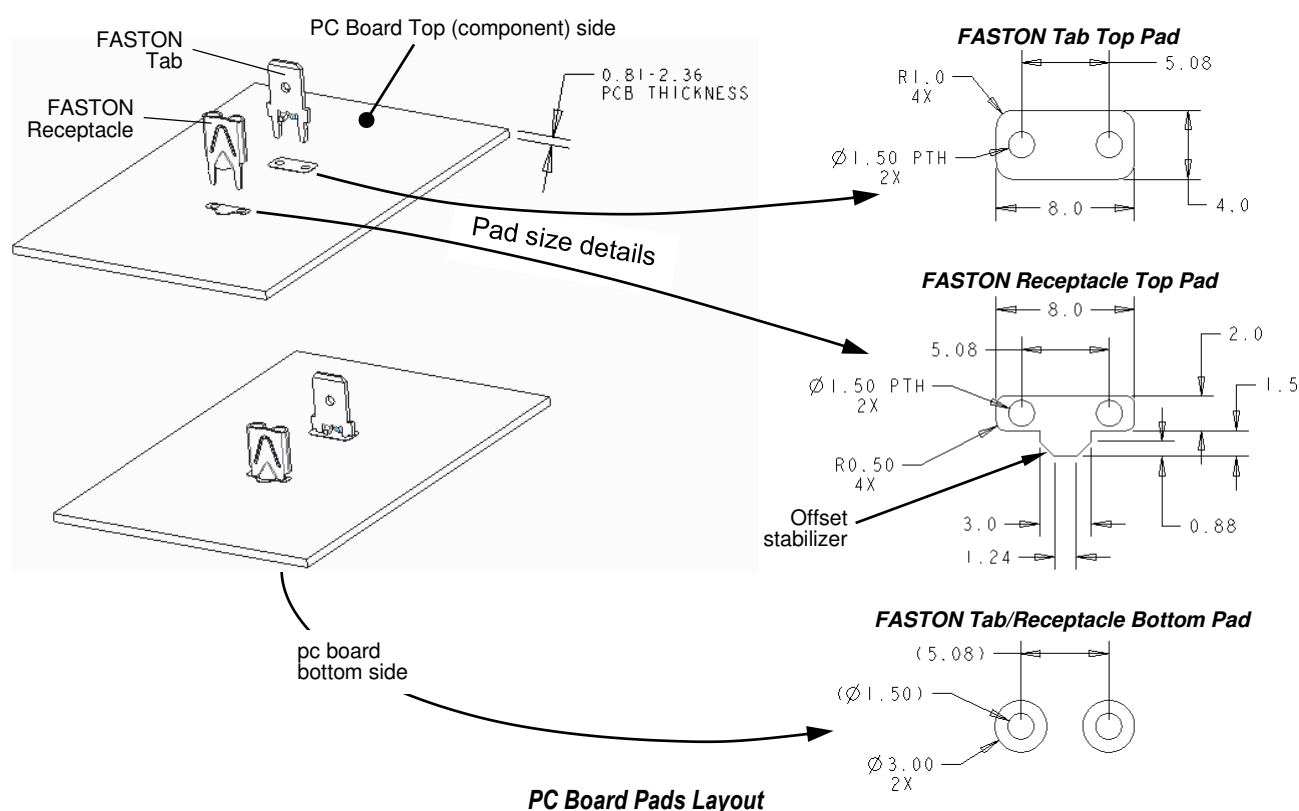

Figure 2
The recommended pad layout is shown in Figure 2.
*FASTON pc board mount Receptacle contacts require component-side solder pad with "offset stabilizer" as shown in Figure 2. The offset stabilizer feature is required in order to provide the specified product performance.*